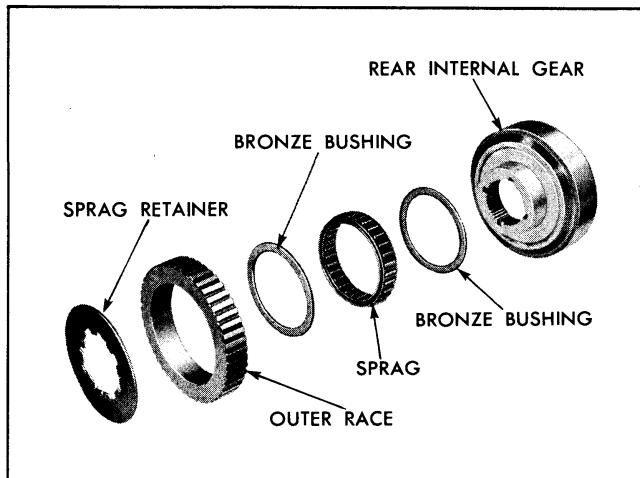

Fig. 7C-90 Sprag Assembly—Exploded
1. Remove sprag retainer (Fig. 7C-89).
2. Remove sprag outer race from sprag assembly and rear internal gear (Fig. 7C-89).